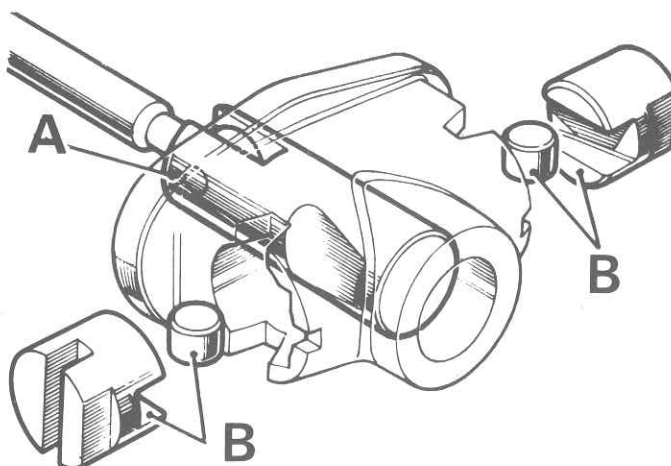

Fig. 9.13. Correct assembly of expander rod and plungers
- 16 Reassembling of the brake adjuster unit, expander unit and brake shoes is basically the reverse procedure to removal. Refer to Figs. 9.13 and 9.14 for the correct reassembly of the expander unit and, (on later models) the securing clips.